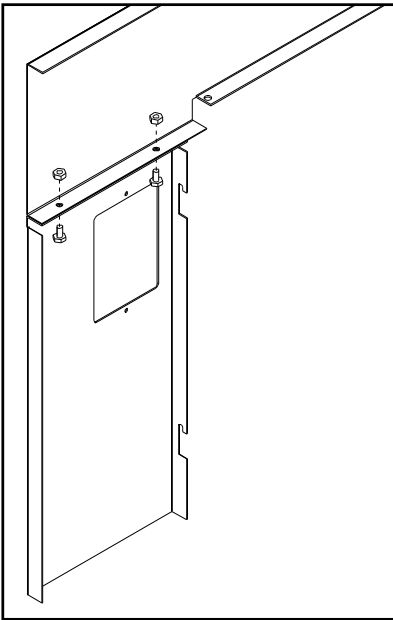

Figure 30: Assembling the Surround Panel, back view.
1. To assemble the surround panels, lay the panels face down on a soft flat surface and align the outer edges of the sides with the top panel. Bolt the sides to the top using two (2) $\frac{1}{4}$ " nuts and bolts on each side (refer to Figure 30).